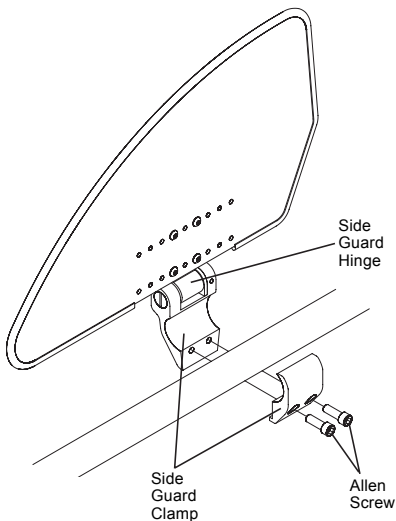

Figure 53
The fold-down side guards utilize an internal spring. To fold down, simply remove the seat cushion and push the top of the side guard toward the seat sling. To unfold, simply pull the side guard up away from the seat sling. See Figure 53.
- halves of the side guard clamp. See Figure 53.
1. Align the two halves of the side guard clamp around the seat tube of the frame. See Figure 53. **Note:** The half of the clamp with the side guard hinge attaches on the outside of the frame.